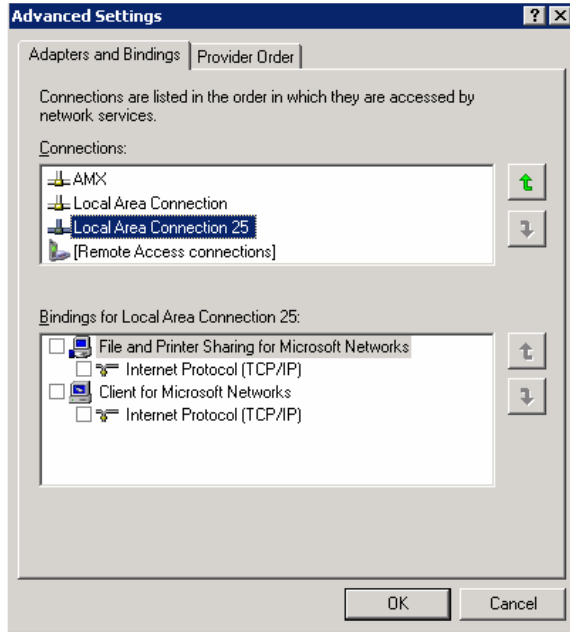

FIG. 107 Bindings for Local area list detail
- In the lower *Bindings for Local Area Connection* field, unselect ALL bindings by clicking on the checkboxes by each binding to remove the checks from each box (FIG. 107).